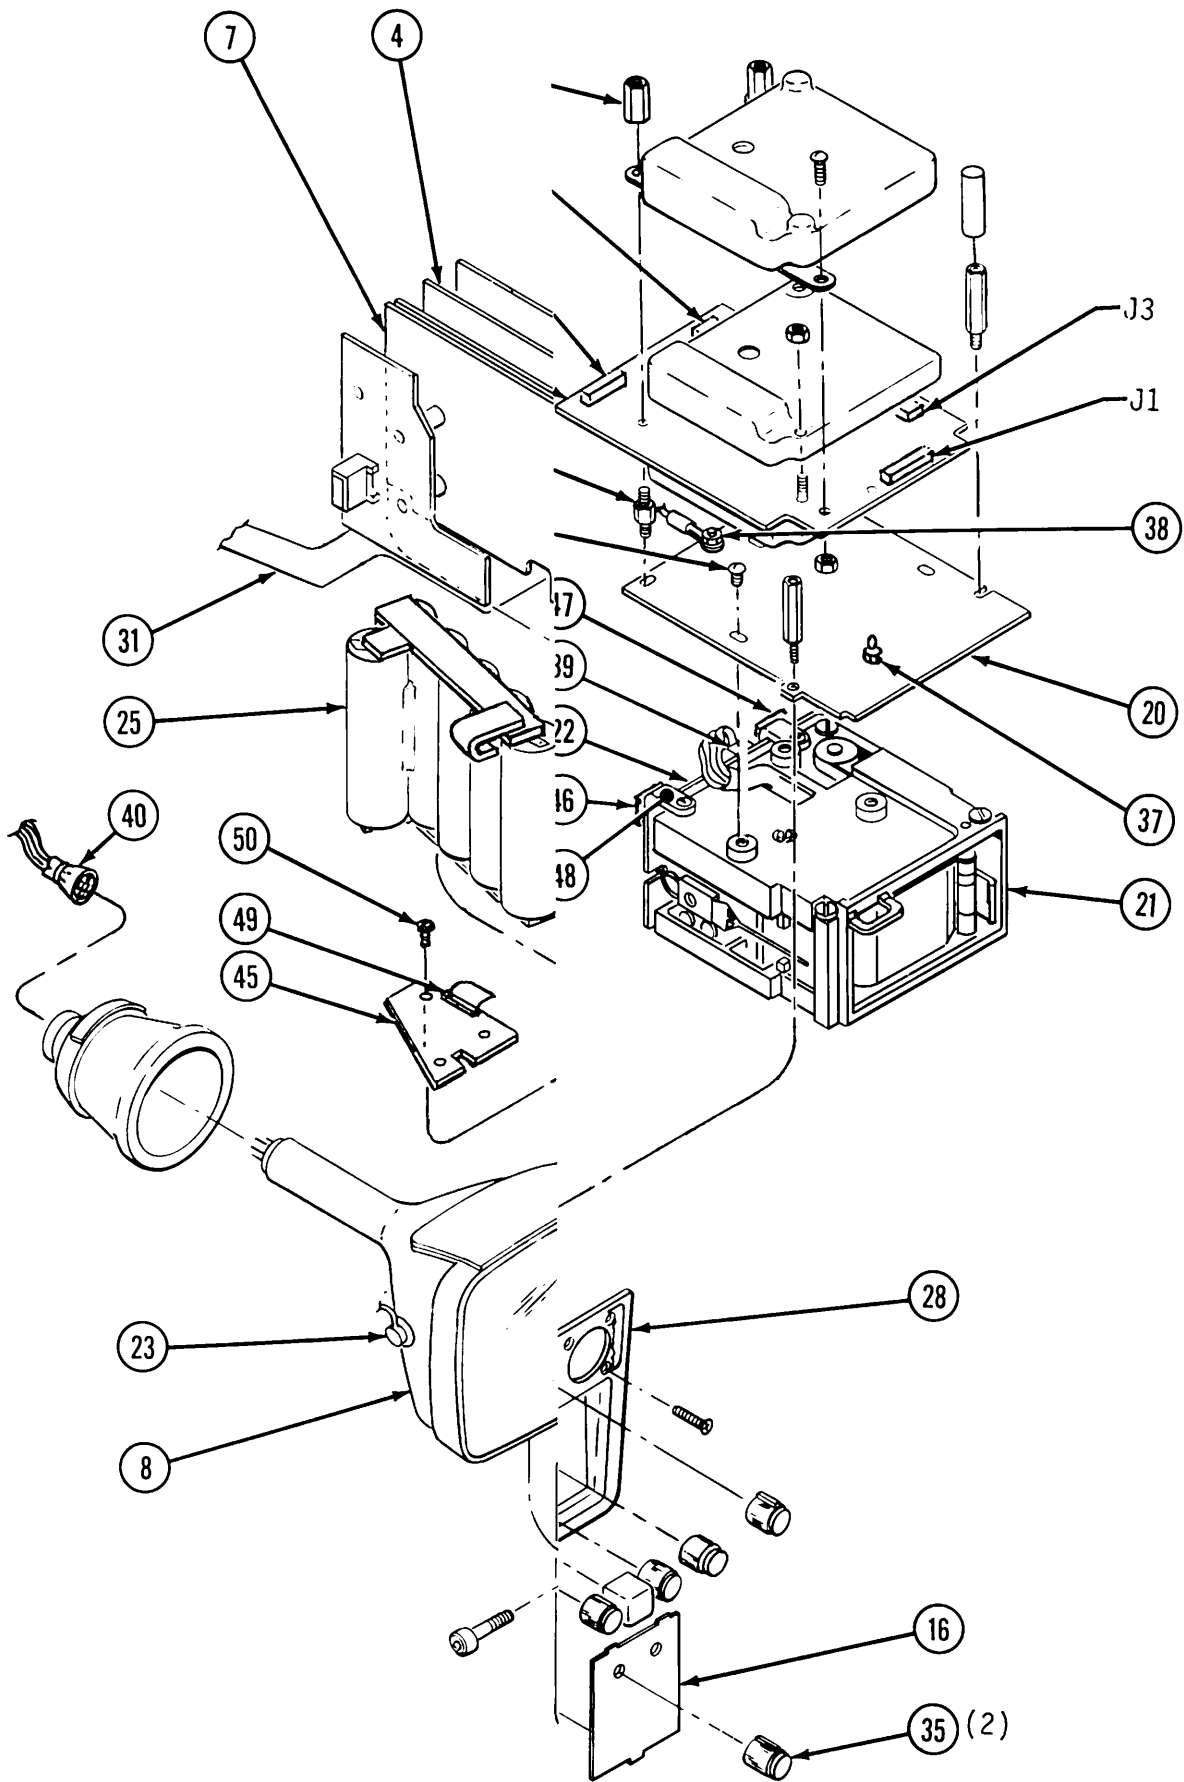

FIGURE 4-5. ECG MONITOR MAJOR COMPONENT REMOVAL
Installation is for the most part the opposite of removal therefore only the removal procedures are provided. Special installation notes as required are provided as part of the removal or disassembly procedure. Disassemble only to the extent required. Figure 4-5 provides an exploded view of the ECG Monitor to assist in the following procedure.
- 4-25. Access Cover Removal. Refer to Figure 4-5 and proceed as follows: